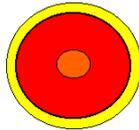

Figure 3-3-3 Emergency stop button
(2) Emergency stop button : In the right side of the screen as shown in Figure 3-3-3. The heavy-duty power will be turned off after pressing down the button, and the machine will not be operable. The use of this button is when: 1.emergency event occurs and the machine operation must be stopped immediately or; 2.there is the need to turn off the overall system power. To release the emergency stop button, just turn the button CW will be ok.